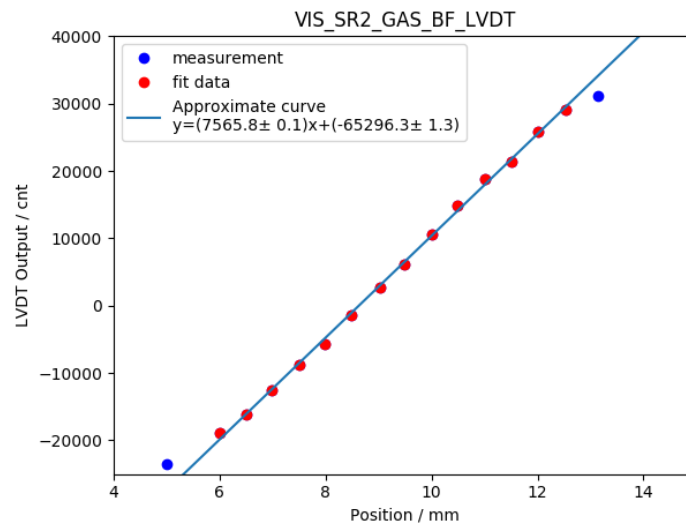

Figure 4: Calibration of SR2 BF GAS
6. Finally, we need to move the core gradually back to the center position and then to the another end of the LVDT range. And we need to register the data at different points in order to check the linearity of the device. As an example, we can see in the figure 4 the calibration done for the BF GAS of the SR2 suspension.